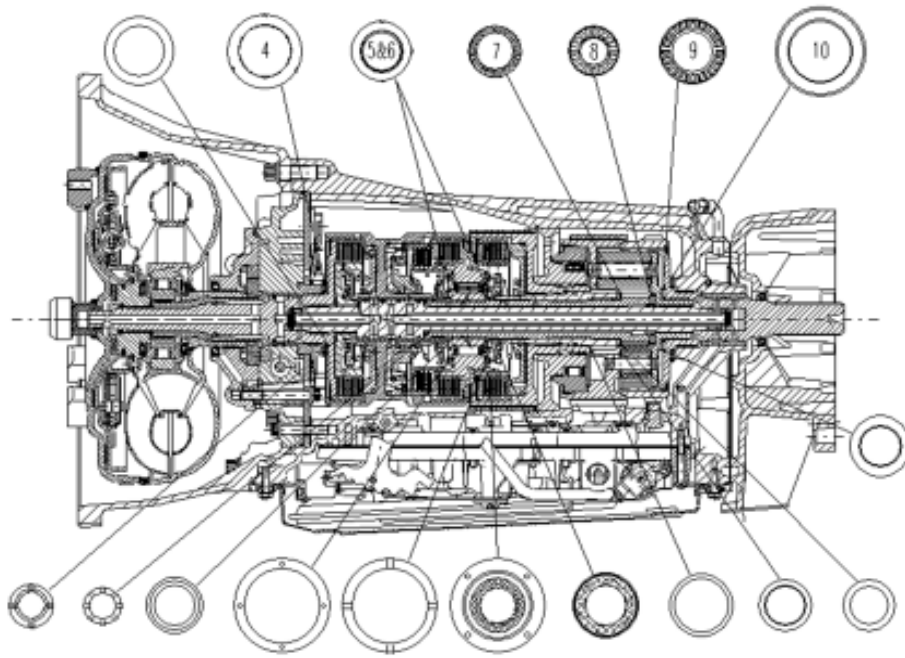

Figure 8.19 Position of thrust bearing and sealing pad
- b. Install all accessories, bolts and bleed devices. Paint the sealant on the sealing place. Tighten all components according to the specification. Ensure the cleanness of all bleed devices. Ensure the rear oil filling nozzle of housing is correct and without blocking material. Refer to Figure 8.19.
The assembly procedure of output shaft and gear assembly (Refer to Figure 8.19),is shown as follows:
- f. Use the Vaseline to lubricate the NO.9 needle thrust bearing and thrust washer, and install it on the rear of planet carrier. Refer to Figure 8.19